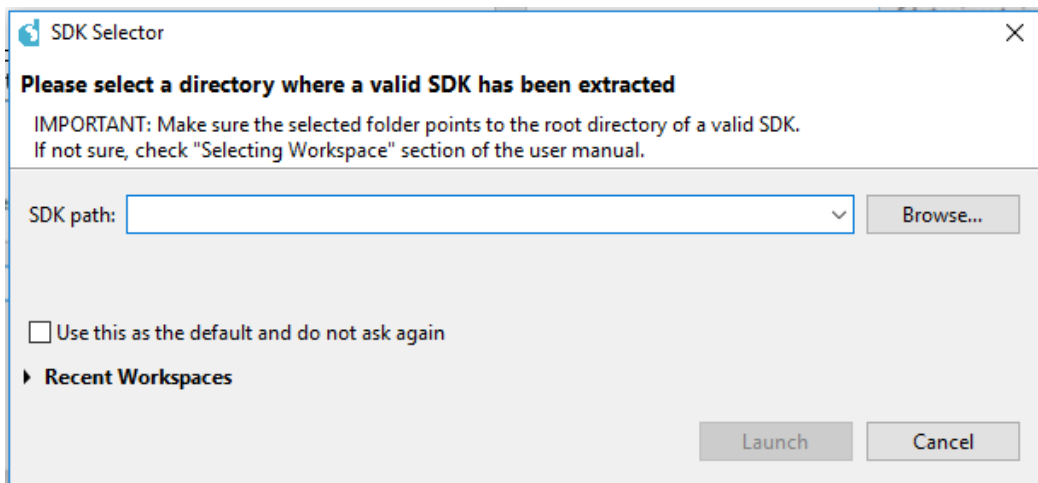

Figure 11: Select Workspace in Smartbeat™ AVD Studio
1. Once the Smartbeat™ AVD Studio is started up, provide the location of the AVD workspace (see Figure 11, the folder to be selected is called "Workspace\_AVD").